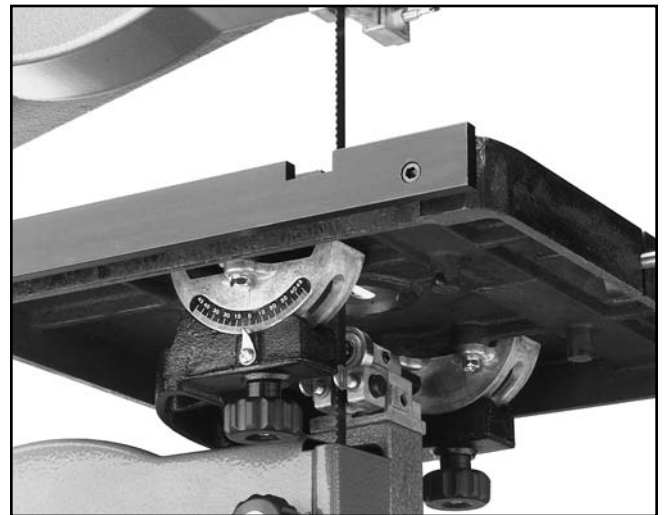

Figure 10. Positioning table on support bracket.
6. Secure the table to the support bracket by securing the two trunnion knobs onto the trunnion bolts. Remember to position the table so that the miter slot is to the right of the blade as you face the front of the bandsaw. **See Figure 10.**